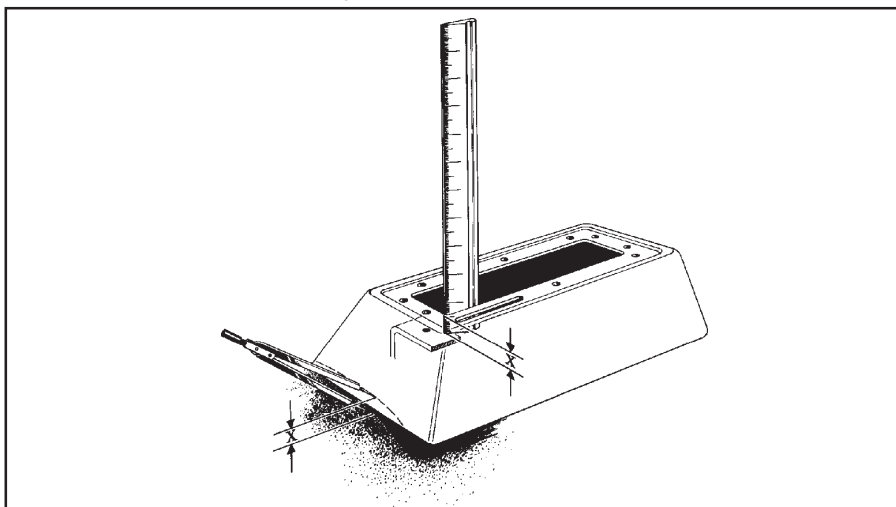

Figure 9
the highest surface on the floor it will come into contact with (**See Figure 9**). Use a ruler to measure the distance X from the underside of the tower to the tower mounting brackets on the shifter mechanism.
**STEP 28.** Set a pair of dividers at the distance X, measured in **step 27**. Hold the tower level to the shifter mechanism with the bottom of the tower touching the highest surface on the floor it will come into contact with. Holding the tower in position, place one leg of the divider against the floor while the other touches the tower (**See Figure 9**). Using the dividers, scribe a line around the tower that follows the contour of the floorboard. Remove the tower and trim at the scribe line using tin snips. Once the tower is properly